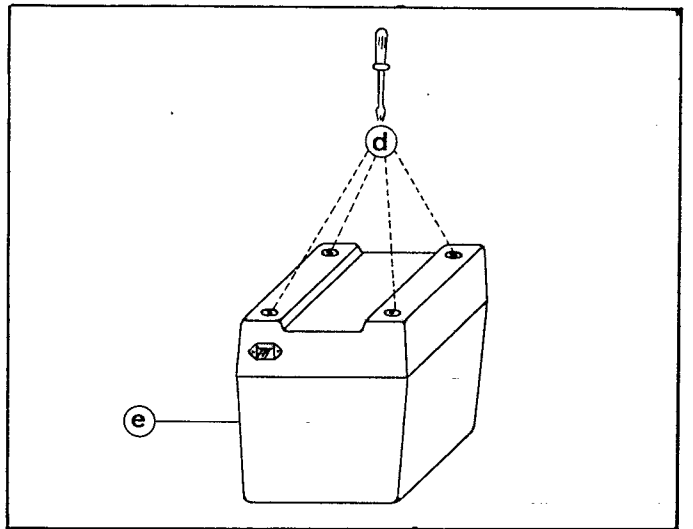

Fig. 8.1 ▲
- Use a cross-head screw-driver (size 2) to loosen screws ④ on the bottom of the unit (Fig. 8.1).